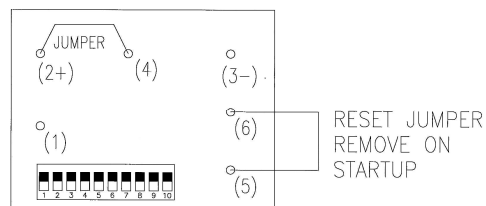

Figure 12 – Time Accumulator Module
1. Open the cover of the control station and locate the time accumulator module. See Figure 12.